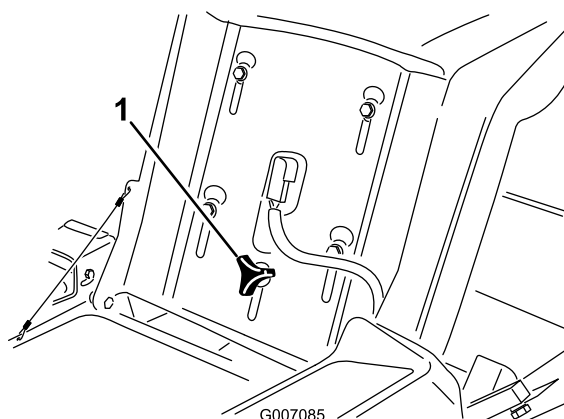

Figure 17
1. Raise the seat and loosen the adjustment knob just enough that seat can move (Figure 17).